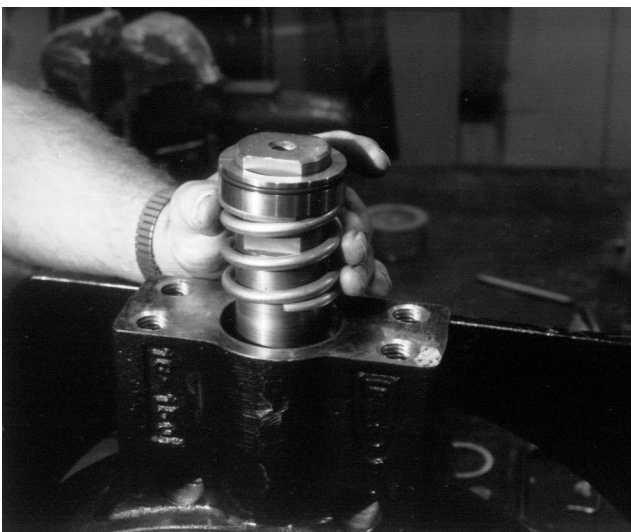

Figure 21
- 11. All Sizes:** Next, place the bearing (7) over the disc stem and push it into the body stem bore. Do not use excessive force to prevent damage to the bearing. Using the stem seal push rod, push the bearing to the bottom of the body stem bore. If necessary, use a hammer and lightly tap on the stem seal push rod to push the bearing into position. The 18" - 24" sizes have two bearings. Install the second bearing in the same manner. Next place the metal shims (15) on top of the bearing. Slide the spring (6) over the stem and into the bore. Take the larger diameter O-ring (5B) and put it into the outside groove of the top gland (5). Place the smaller diameter O-ring into the inside groove of the gland. Slide the gland over the disc stem. The outside O-ring must be on top, away from the disc (Figure 21). Place the ground spring (22) over the disc stem.